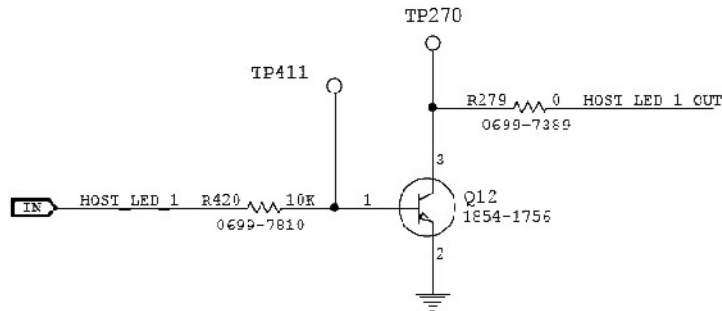

Figure 6 LED driver circuit
- The same circuit configuration as shown in Figure 6 on page 39 is used for all LED ports.